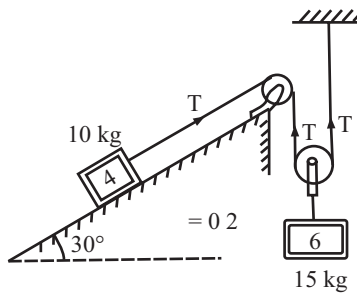

Fig 11.26
Q.30: Determine the resulting motion of the body A, assuming the pulleys to be smooth and weightless as shown in fig 11.26. If the system starts from rest, determine the velocity of the body A after 10 seconds.